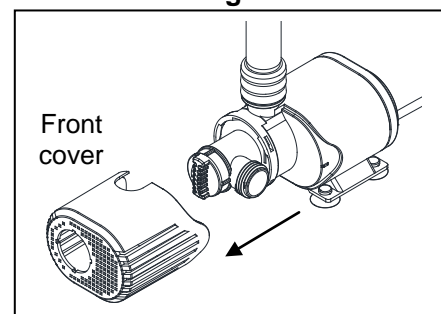

Fig. 2
2. Remove front cover from pump. Fig 2